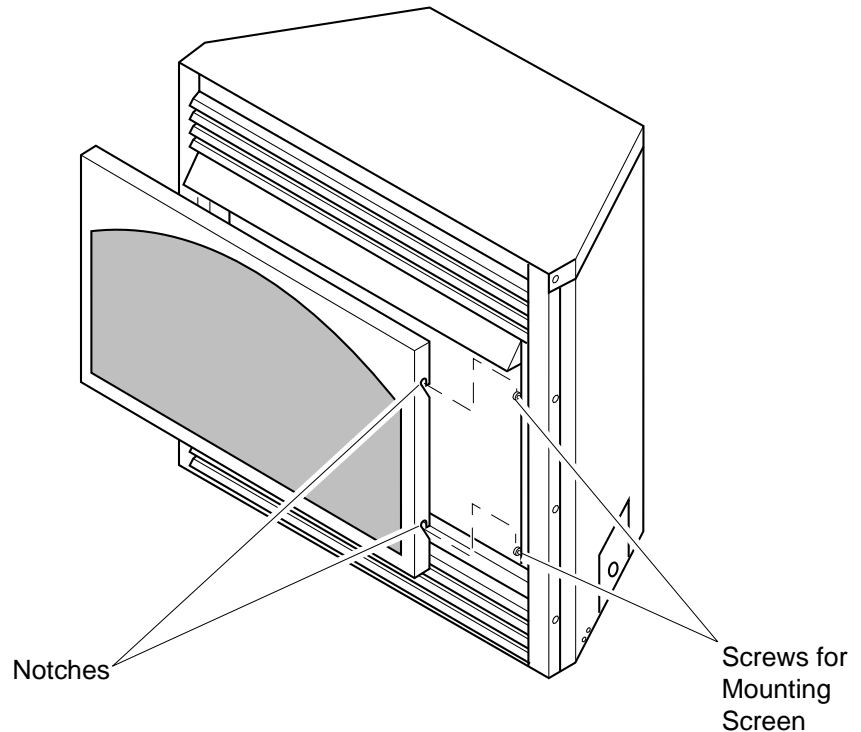

Figure 26 - Installing Fireplace Screen
5. Install fireplace screen by slipping notches of fireplace screen over screws on front of fireplace (see Figure 26).
4. Wait five (5) minutes to clear out any gas. Then smell for gas, including near the floor. If you smell gas, STOP! Follow "B" in the safety information above. If you don't smell gas, go to the next step.
5. Turn control knob counterclockwise  to the PILOT position. Press in control knob for five (5) seconds (see Figure 26, above).